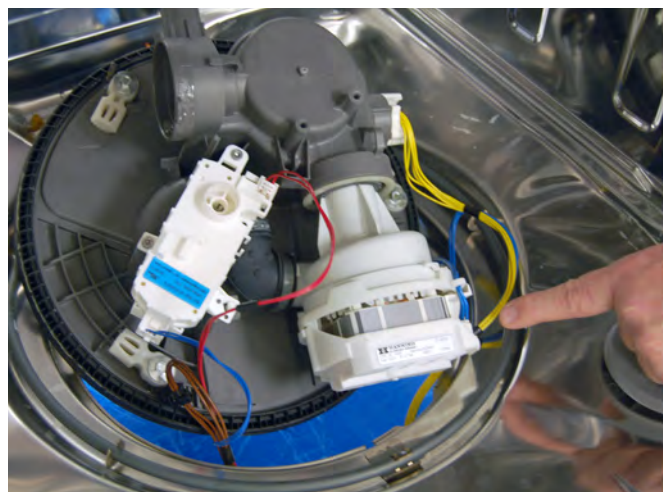

Figure 18
13. Unplug the wash motor harness, see figure 18